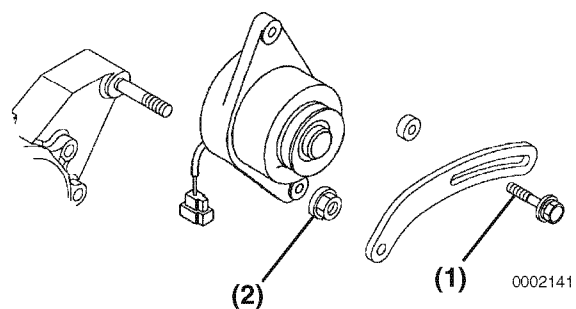
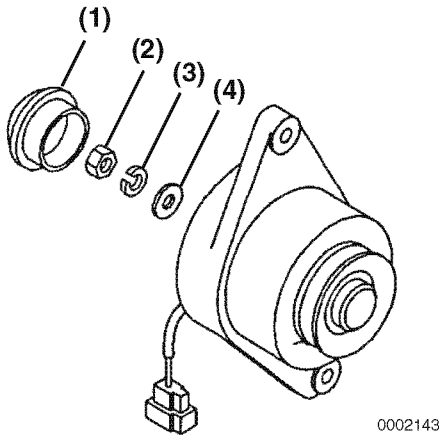

Figure 11-23
Figure 11-24
3. Remove the V-belt adjuster from the dynamo bolt (Figure 11-23, (1)).
4. Remove the nut (Figure 11-23, (2)) from the gear case stud. Remove the dynamo.
1. Remove the rear cover (**Figure 11-24, (1)**).
2. Remove the nut (**Figure 11-23, (2)**), lock washer (**Figure 11-24, (3)**), and flat washer (**Figure 11-24, (4)**).